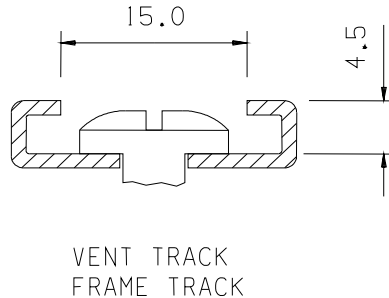

Fig. 3
- 9.1.12 Use M5 pan head screws for fixing vent track and frame track on all Parallel hinges. Refer to Figure 3 below for dimensional constraints.